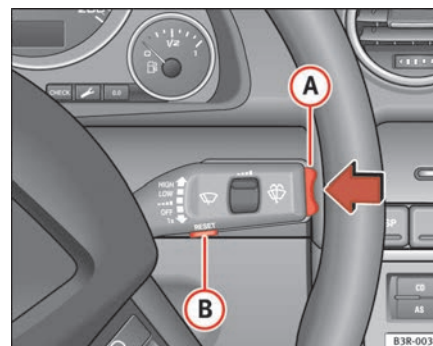

Fig. 59 Windscreen wiper lever: On-board computer controls
Press RESET button **(B)** ⇒ page 85, fig. 59 to switch back and forward between the functions of on-board computers 1 and 2.
The driving time warning can be switched off by briefly pressing the function selector switch or the **Reset** button ⇒ fig. 59.
- Press the top or bottom of the function selector switch **A** ⇒ fig. 59. This displays the functions of the on-board computer in sequence.